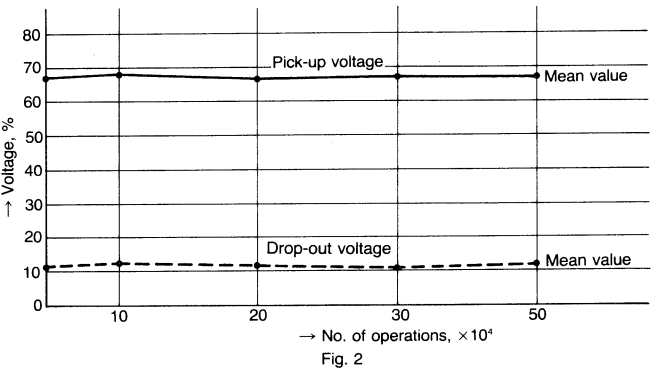

Fig. 2
- Pick-up and drop-out voltage: Fig. 2